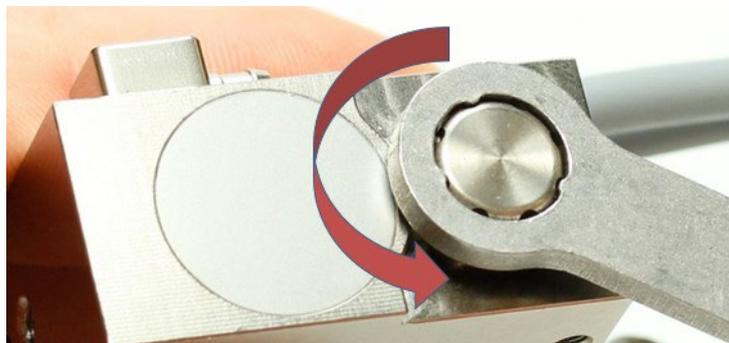

Fig. 69: Screw open adjust screw
1. Send the command "ADJUST:START" to the control unit via RS-232C. The system returns the message "Adjust Screw OUT Press Enter". Screw open the adjust screw completely (counter-clockwise, see Fig. 69, torque for screwing it open is approx. 50 – 60 cN.m).